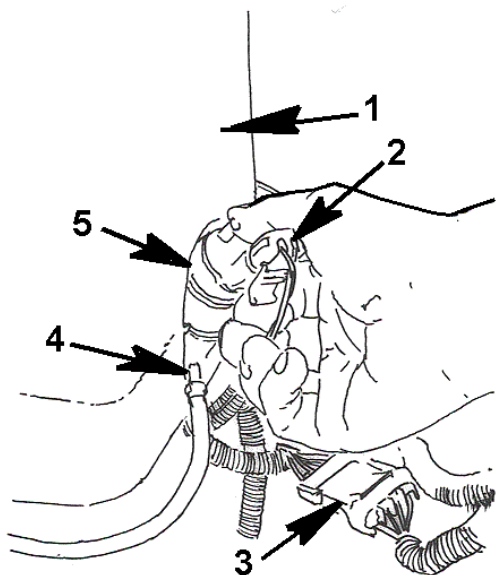

Figure 59 Reservoir Pump Removal
2. To remove reservoir, locate and disconnect windshield washer fluid supply pump harness (Figure 59, Item 2).